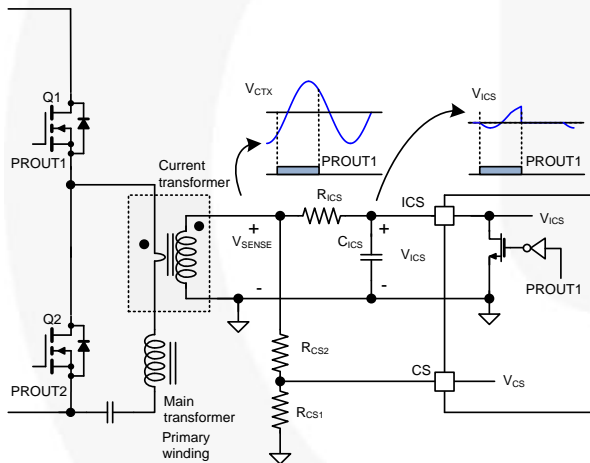
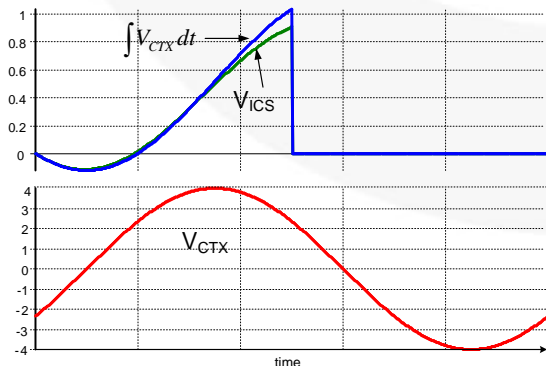
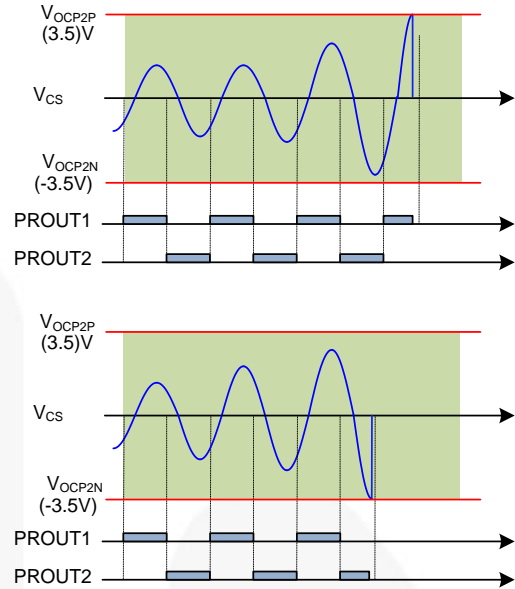

Figure 61. Current Sensing of FAN7688
Figure 62. Generating the Integral Signal (V_{ICS}) from V_{SENSE}
Figure 66. Over-Current Protection of the CS Pin
FAN7688 senses instantaneous switch current and the integral of the switch current as illustrated in Figure 61. Since FAN7688 is located in the secondary side, it is typical to use a current transformer for sensing the primary side current. While the PROUT1 is LOW, the ICS pin is clamped at 0 V with an internal reset MOSFET. Conversely, while PROUT1 is high, the ICS pin is not clamped and the integral capacitor (C_{ICS}) is charged and discharged by the voltage difference between the sensing resistor voltage (V_{SENSE}) and the ICS pin voltage. During normal operation, the voltage of the ICS pin is below 1.2 V since the power limit threshold is 1.2 V. The current sensing resistor and current transformer turns ratio should be designed such that the voltage across the current sensing resistor (V_{SENSE}) is greater than 4 V at the full load condition. Therefore the current charging and discharging C_{ICS} should be almost proportional to the voltage across the current sensing resistor (V_{SENSE}). Figure 62 compares the VICS signal and the ideal integral signal when the amplitude of V_{SENSE} is 4 V. As can be seen, there is about 10% error in the VICS signal compared to the ideal integral signal, which is acceptable for most designs. If more accuracy of the VICS is required, the amplitude of V_{SENSE} should be increased.
- (1) Non-ZVS Prevention: When the compensation voltage (V_{COMP}) is higher than 3 V and V_{CS} peak value is smaller than 0.3 V, non-ZVS condition is detected, which decreases the internal compensation signal to increase the switching frequency.
- (2) Over-Current Protection (OCP2): When V_{CS} is higher than 3.5 V or lower than -3.5 V, over-current protection (OCP) is triggered. The instantaneous primary side current is also sensed on CS pin. Since the OCP thresholds on the CS pin are 3.5 V and -3.5 V as shown in Figure 66, the CS signal is typically obtained from V_{SENSE} by using a voltage divider as illustrated in Figure 61. 150 ns debounce time is added for OCP.